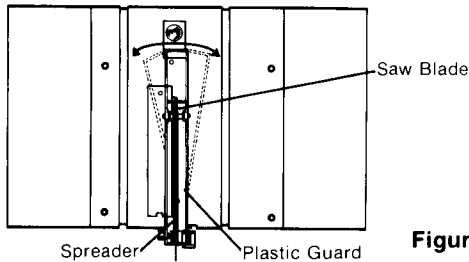

Figure 29
- B. Adjust "Horizontal" and "Swing" simultaneously. (See **figure 29**.)